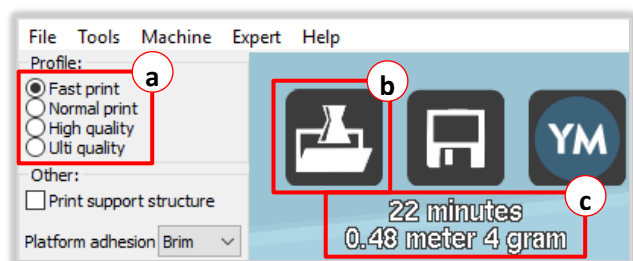

Figure 2: Cura options
2. Click the **Load** icon (*Figure 2, label b*) to select the STL file from your **Home** drive (or **Ctrl + L**). The model will display on the checkered area.
3. Cura will estimate how much filament the 3D model will use, how long the print job will take, and how much the model will weigh (Figure 2, label c).
4. Select a **quickprint profile** (Figure 2, label a). Higher quality prints will take longer.